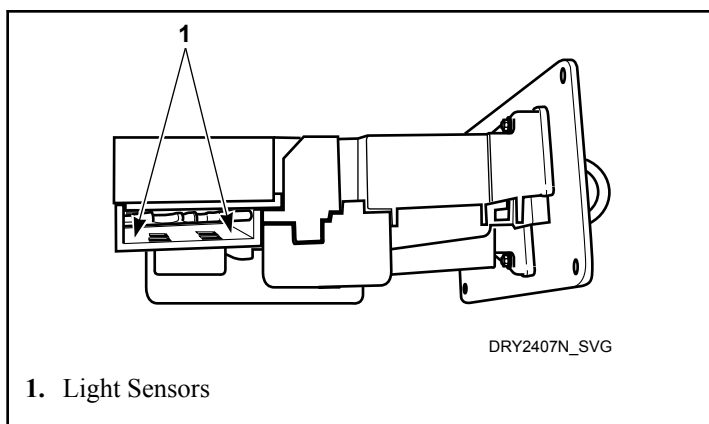

Figure 33
6. Clean light sensors with a soft brush or air spray duster. Refer to *Figure 33*.